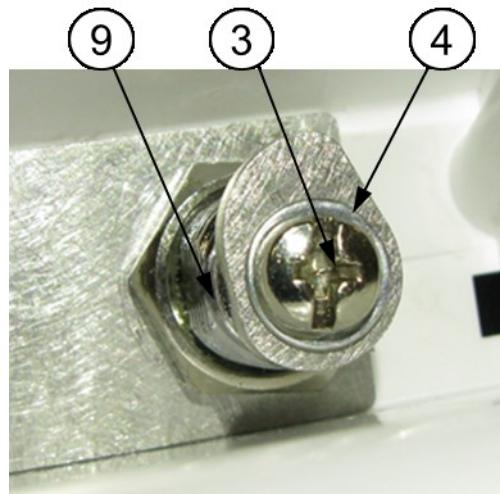

Fig. 95 The Lock cam installation
8. Using the **TB-5** screw one **Screw M5 (3)** with the **Toothed washer M5 (4)** placed below the **Screw head** as shown in Fig. 95.